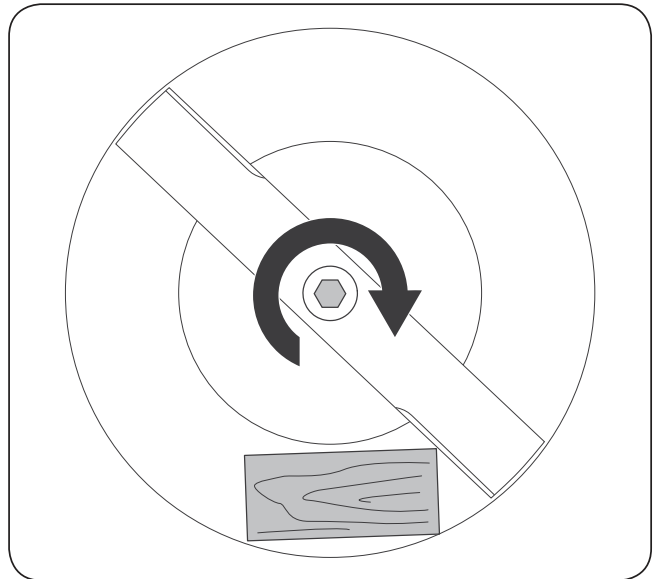

Figure 18
5. Install the new blade. Use a block of wood between the blade and lawn mower housing and tighten the blade bolt, turning clockwise. The recommended tightening torque is 45-55 Nm. (See **Figure 18**)